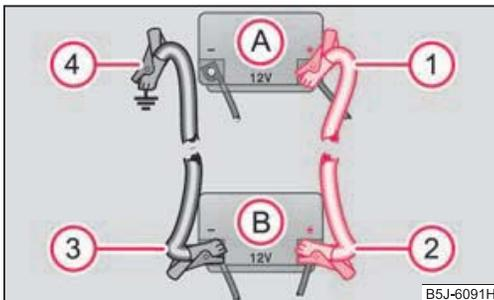

Fig. 159 Jump-starting using the battery from another vehicle: A - flat vehicle battery, B - battery providing current
- Attach one end ① to the positive terminal ⇒ fig. 159 of the discharged battery (A).
- Attach the other end ② to the positive terminal of the battery supplying the power (B).